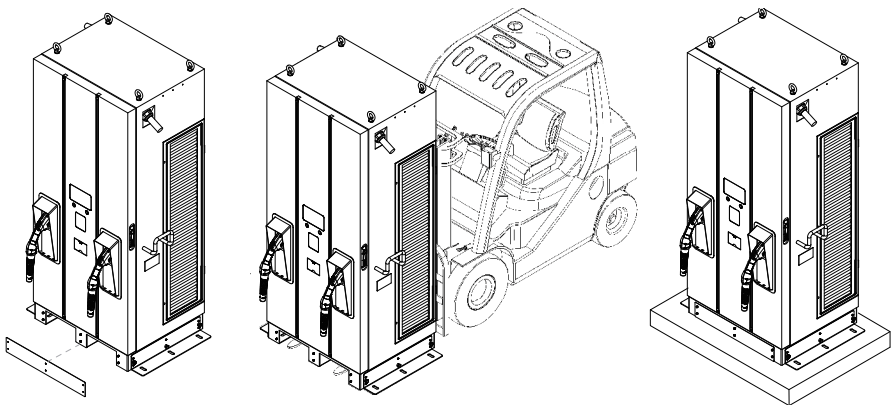

Figure 9. Moving the EVSE via forklift
5) To use a forklift to move the EVSE, first remove the bottom trim panels from the front and back of the EVSE, then lift the EVSE with the forklift. See Figure 9.